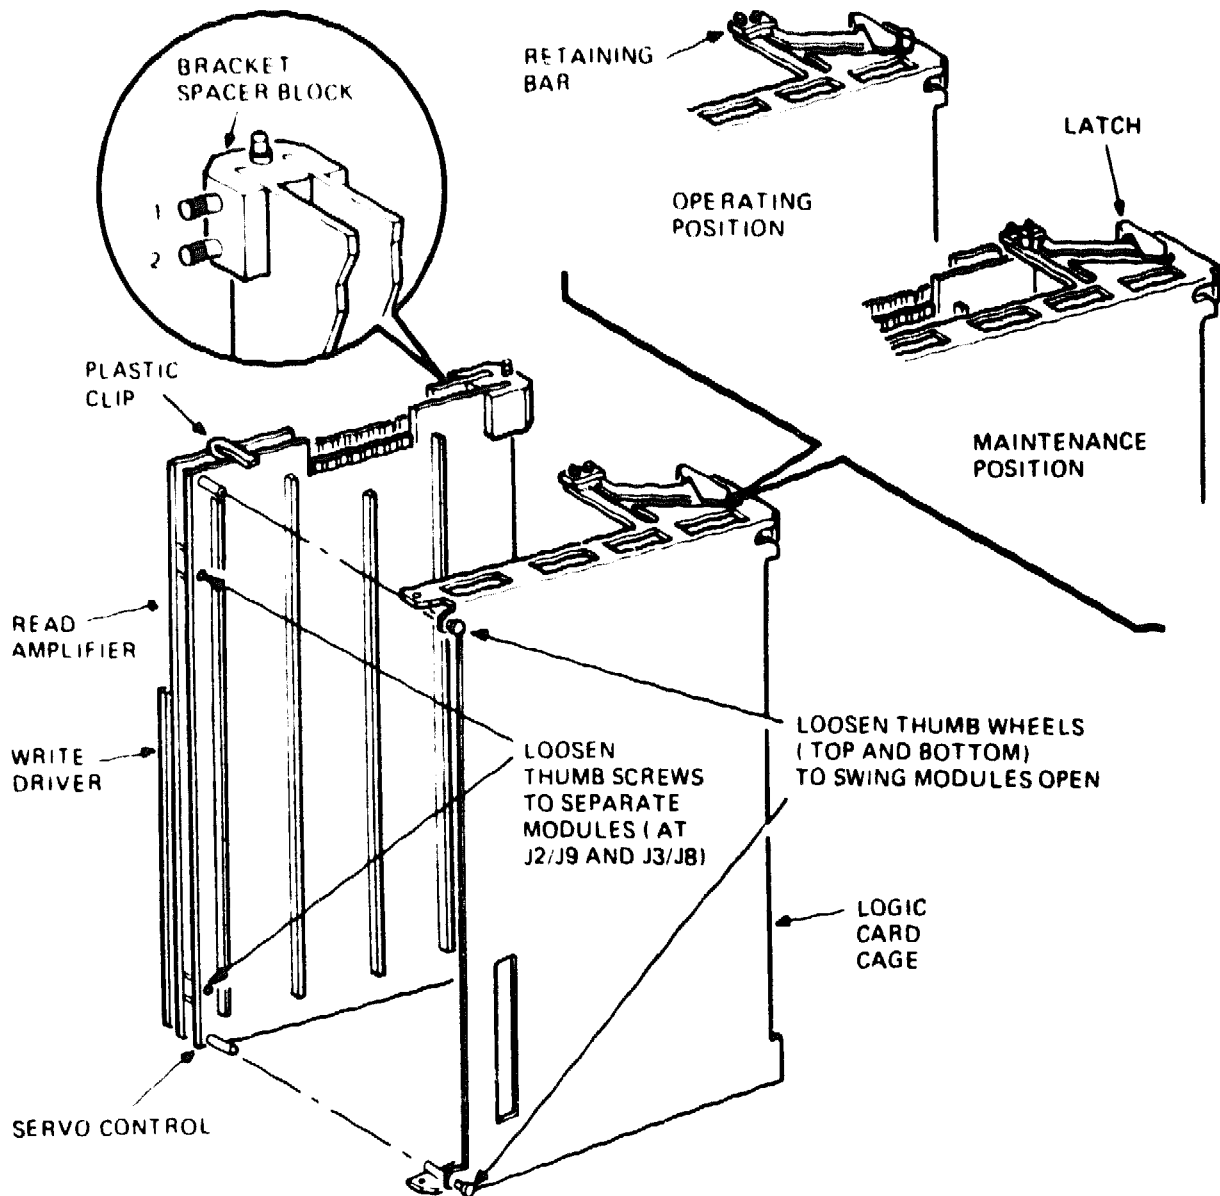
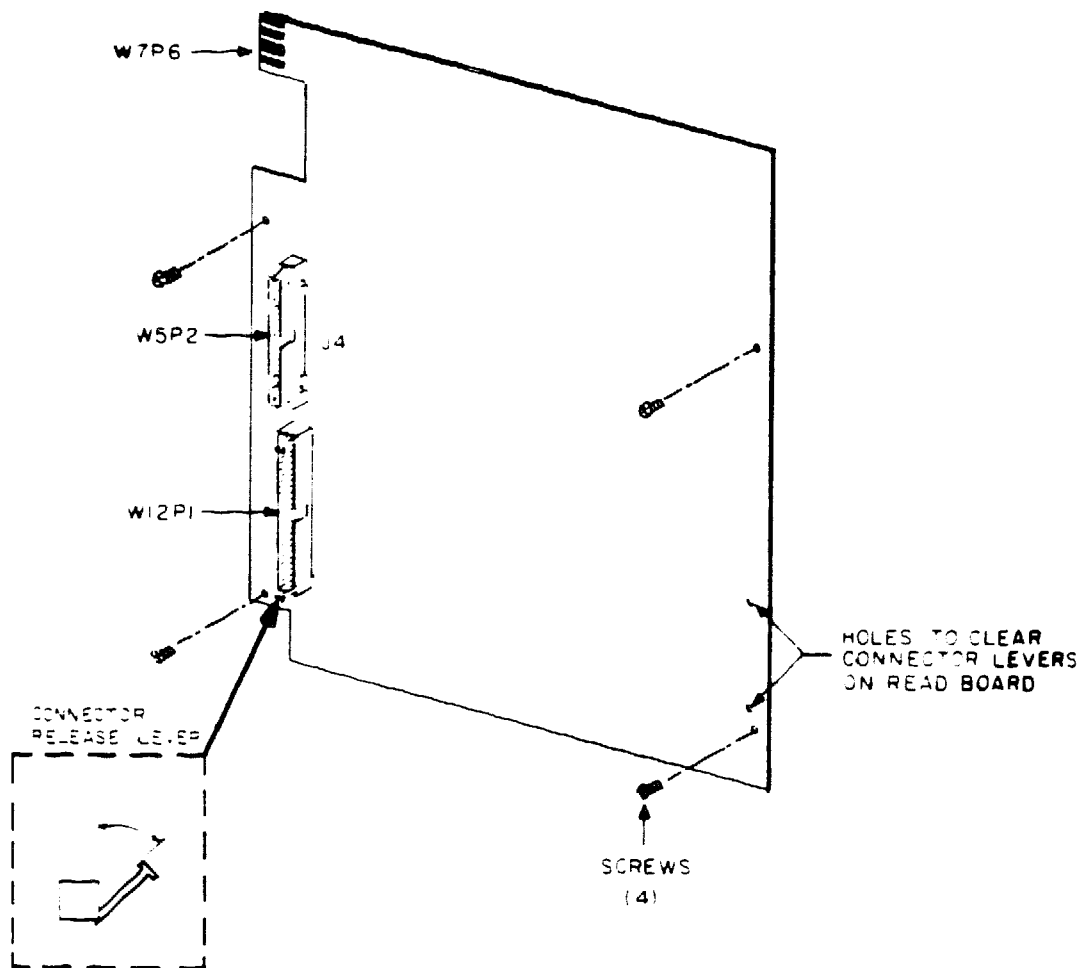

Figure 5-26. REMOVING WRITE DRIVER/READ AMP/ SERVO CONTROL MODULES
Figure 5-27. WRITE DRIVER MODULE CONNECTORS
2. Completely loosen both thumbwheels (top and bottom) to partially release the modules from the logic cage (Figure 5-26). Remove connectors W5P2 (to read/write head), W7P6, and W12P1 from the Write Driver Module (Figure 5-27).
6. Ensure that all connectors have been removed. Remove one of the two Phillips screws from the bracket stop on the underside of the logic cage (Figure 5-26) and carefully remove the three-module assembly from the transport.
7. Remove the retaining bar from the logic cage (Figure 5-26).
10. Loosen the upper thumbscrews 6 to 8 times at the top and bottom space brackets/blocks (Figure 5-26).
11. If you need to replace the Read Amplifier or Write Driver module, separate them by removing four standoff screws (Figures 5-27 and 5-28).
2. Install an upper and lower spacer block assembly to both modules and secure by tightening each (4) thumbscrew (Figure 5-26). Replace the plastic clips.
3. Secure the Write Driver Module to the read amplifier using four screws (Figures 5-27 and 5-28).
7. Replace and secure the retaining bar (Figure 5-26).
9. Tighten the upper and lower thumbwheels on the logic cage to completely secure the modules (Figure 5-26).